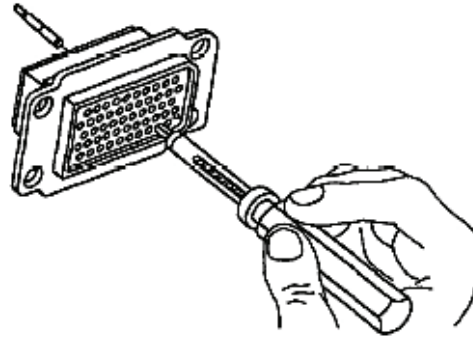

Figure 21. Broken Wire Contact Removal
h. Push contact completely out of rear of connector before disengaging removal tool (Figure 21).